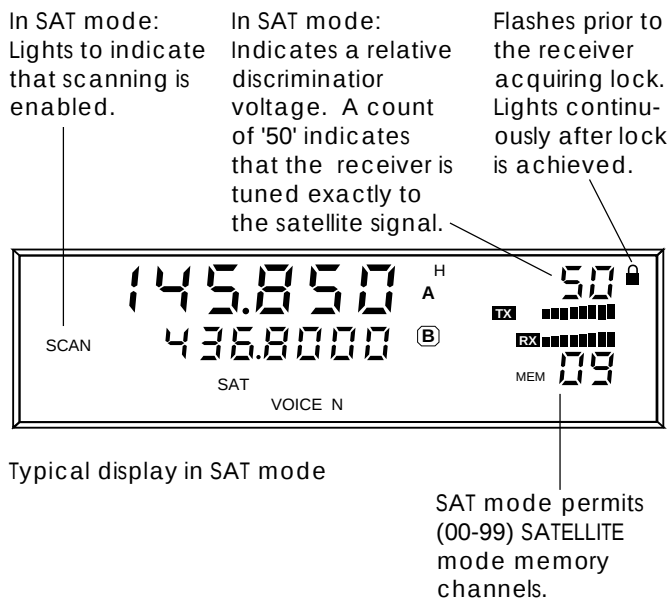

FIGURE 12
2. Press the  button to enter the satellite mode. The TR270 will display the factory programmed satellite memories. Press the  /  buttons to select memory ‘09’. Refer to Figure 12 on the following page.